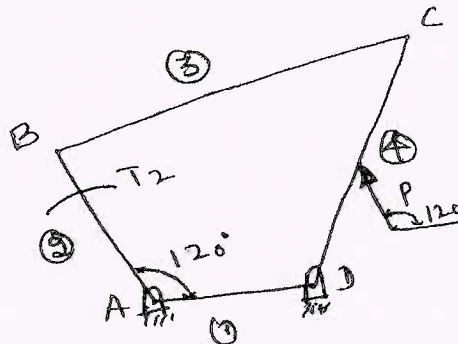

Fig.Q1(b)
- b. A four bar mechanism is shown in Fig.Q1(b), which is acted upon by a force  $P = 100 \angle 120^\circ$  N on link CD. The dimensions of various link are  $AB = 40$  mm,  $BC = 60$  mm,  $CD = 50$  mm,  $DA = 30$  mm and  $DE = 20$  mm. Determine the magnitude and direction of input torque  $T_2$  on link AB for static equilibrium of the mechanism.